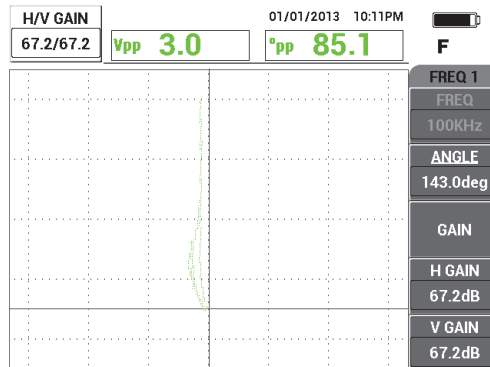

Figure 5-35 Adjusting the vertical gain
5. Press the GAIN key (**dB**) once, and adjust the H/V GAIN until the notch signal reaches about 90 % of the screen height (see Figure 5-35 on page 150).